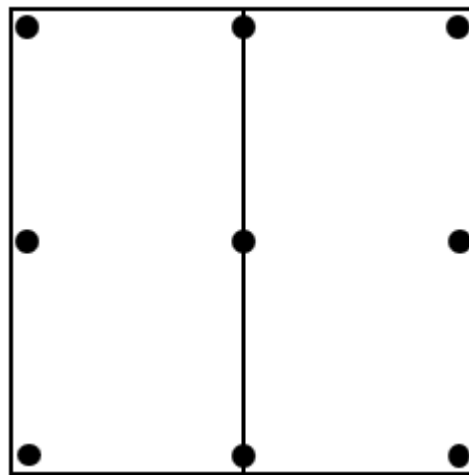

Figure 8.1: Designated Landing Zone Configuration with Stakes
1. One (1) zone with a size of 8 ft x 8 ft.
2. DLZ is (only) two (2) sheets of 4 ft x 8 ft coroplast (corrugated plastic) with a 4 mm thickness. Four (4) sheets of 4 ft x 4 ft coroplast is also accepted but will require additional staking. No modification/material under the coroplast.
3. Surface staked into the ground with a minimum of nine (9) stakes (Figure 8.1). Intent is a stake every four (4) ft. Stakes are eight (8) inch or longer, metal, and fully embedded into the ground.